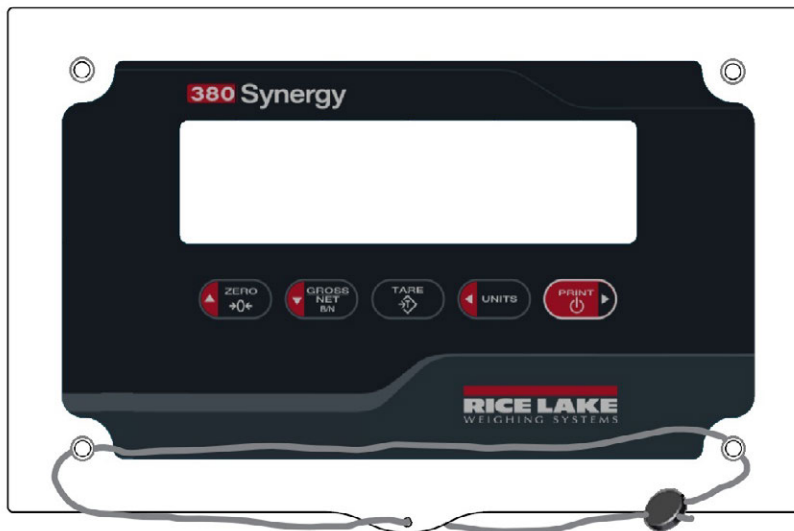

Figure 4-2. Sealing the 380/380X Indicator – No Access
3. Navigate the lead sealing wire through the lower two fillister head screws on the front plate and the hole at the bottom center of the front plate, as shown in Figure 4-2.